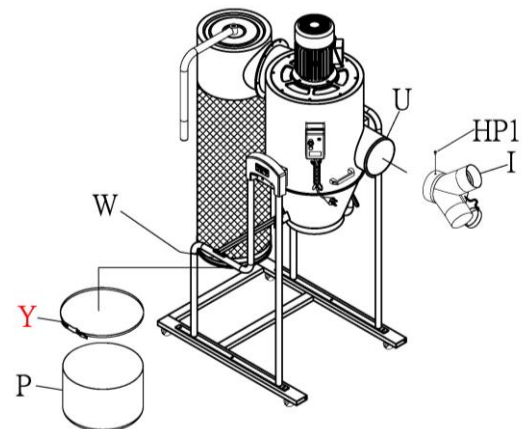

Figure 10
11. Apply foam tape (U) around inlet port near edge. See Figure 10. The foam tape should completely encircle the port.
12. Install inlet adaptor (I) on main housing and secure with pan head screw (HP1).
13. Apply foam tape (W) just above lower lip of canister filter. The foam tape should completely encircle the canister filter.
14. Install collection bag (P) to bottom of canister filter and secure with steel bag clamp (Y).